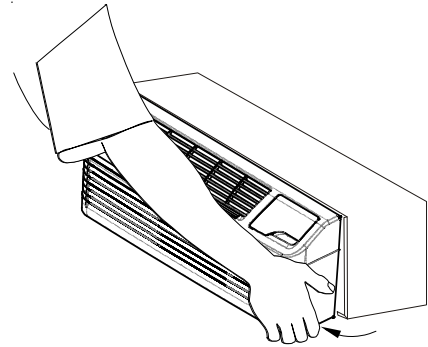

Figure 1
1. Grasp the cabinet front and pull the bottom of the cabinet away from the chassis until the retaining clips disengage. See Figure 1.